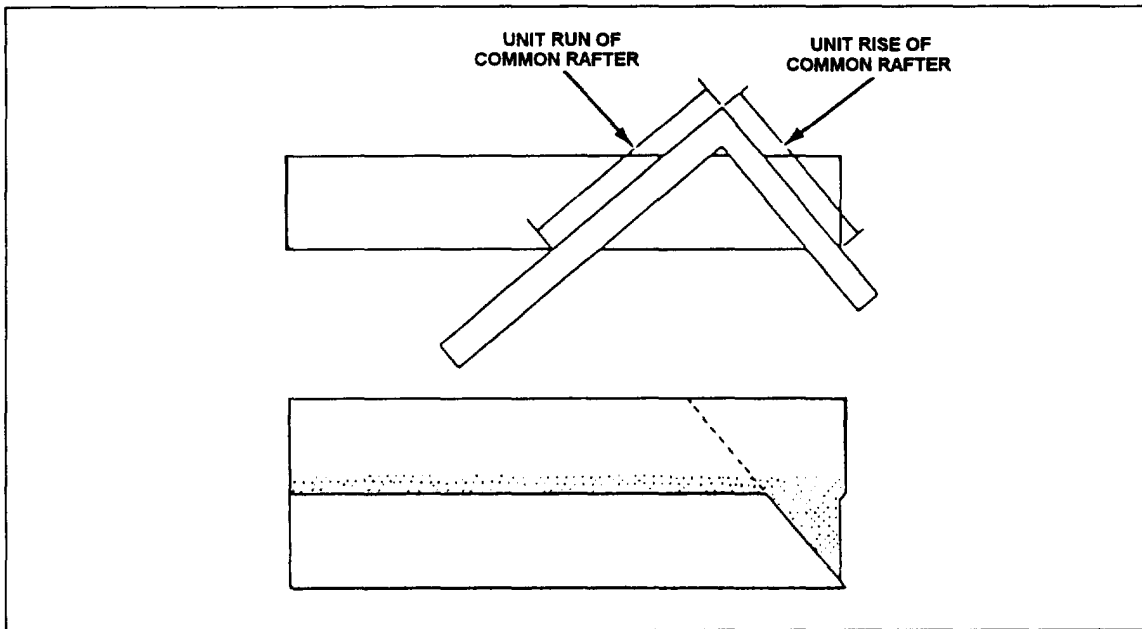

Figure 3-29.-Layout pattern for hip and valley shingles.
**Hips and Valleys.**— One side of a hip or valley shingle must be cut at an angle to obtain an edge that will match the line of the hip or valley rafter. One way to cut these shingles is to use a pattern. First, select a 3 foot long 1 by 6. Determine the unit length of a common rafter in the roof (if you do not already know it). Set the framing square on the piece to get the unit run of the common rafter on the blade and the unit rise of the common rafter on the tongue (fig. 3-29). Draw a line along the tongue; then saw the pattern along this line. Note: The line cannot be used as a pattern to cut a hip or valley.